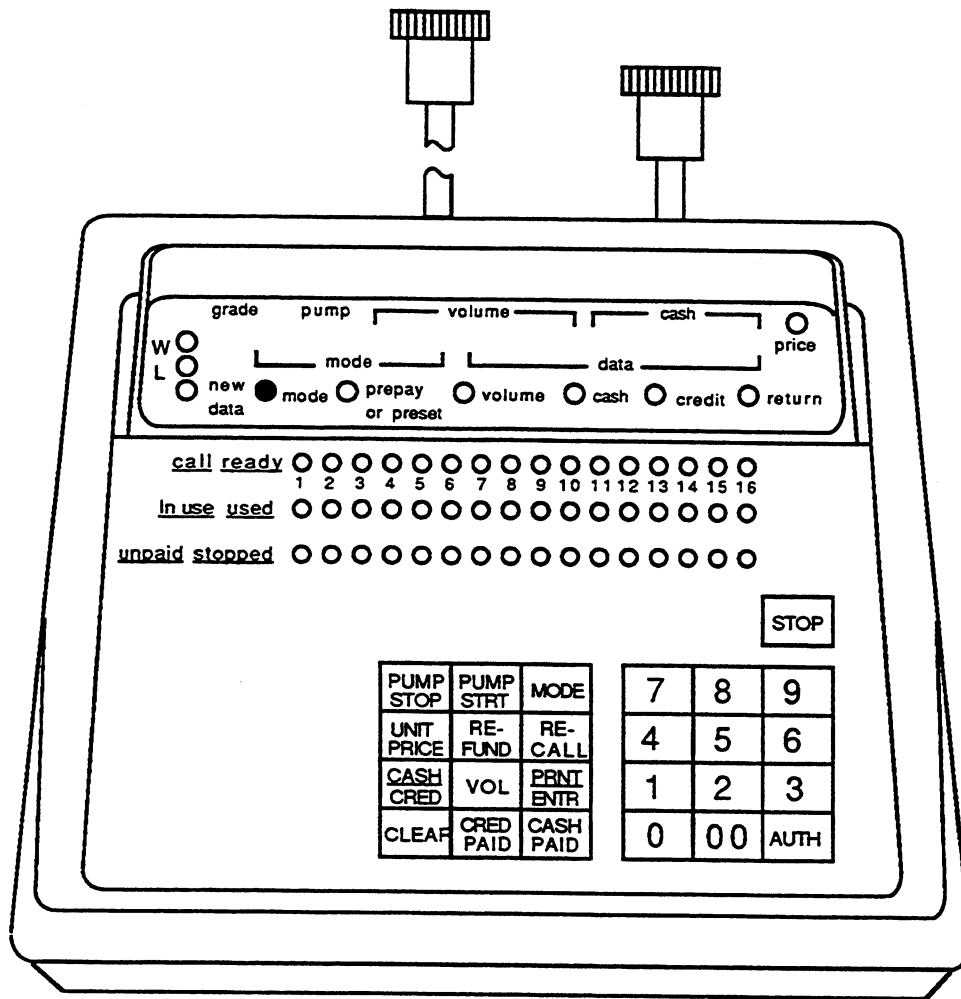

FIGURE 1-1. WAYNE 2400/PLUS CONSOLE
- Wayne 2400/Plus Consoles (maximum of 2) with optional interface to the RTP or the 1000 ECR (Figure 1-1).
- Unpack the 2400 Console (Maximum of 2), see Figure 1-1.